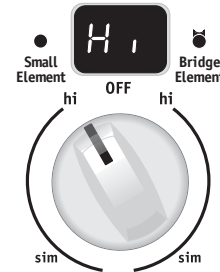
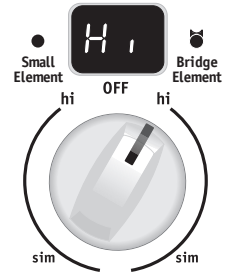
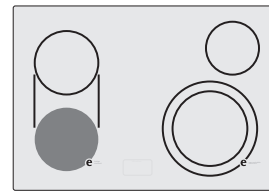

Fig. 3
Fig. 4
Fig. 5
2. Push in and turn the control knob counterclockwise (See Fig. 3 and Fig. 5) to heat the portion of the Bridge element for normal shaped cookware or clockwise (See Fig. 4 and Fig. 6) for larger or rectangular shaped cookware.